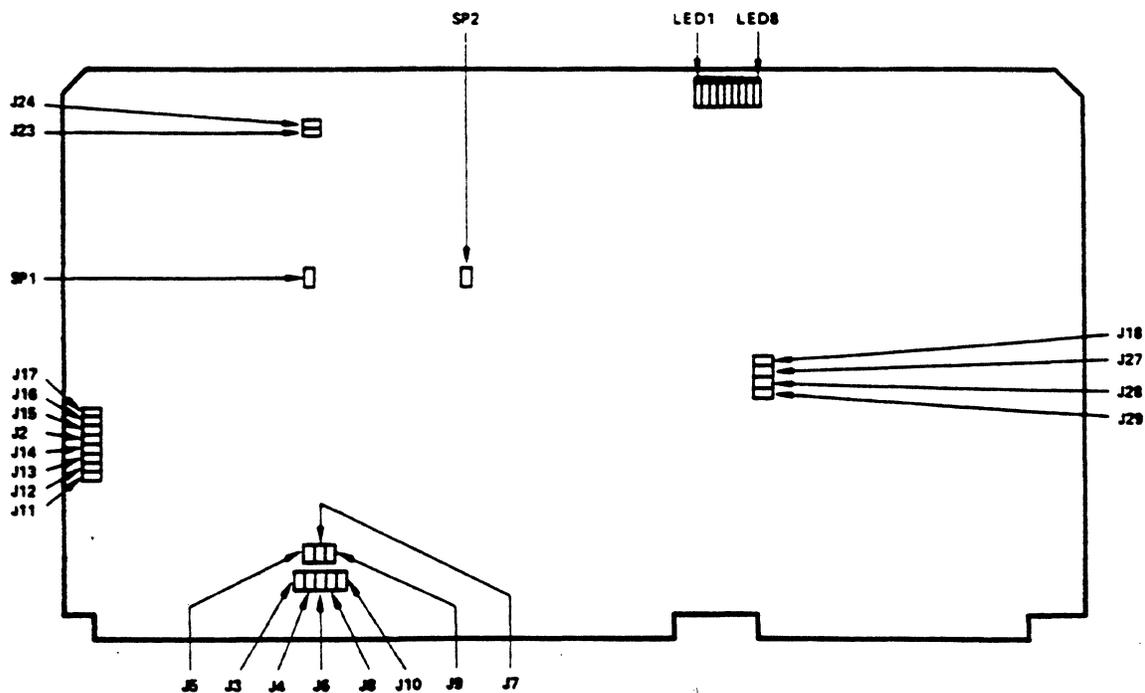

Figure 3-12 SIO-3270 Board
Figure 3-12 illustrates the positions of the LEDs and configuration areas on the SIO-3270 board. Table 3-17 lists the default configuration of the board, indicating the presence or absence of shorting plugs ("In" and "Out", respectively) in the configuration areas. Configuration areas not described in Tables 3-17 and 3-18 should not be altered.
- Areas J2 and J14 assign the SIO-3270 board number (SIO 1 through SIO 4). The locations of these areas are indicated in Figure 3-12. Board number assignment is required only for boards ordered separately; factory-installed boards have preassigned board numbers and have been configured as required. Table 3-18 lists the board numbers assigned by each combination of shorting plug positions.
- Areas J3 through J6 are used to set the Multibus interrupt level. The locations of these areas are indicated in Figure 3-12.